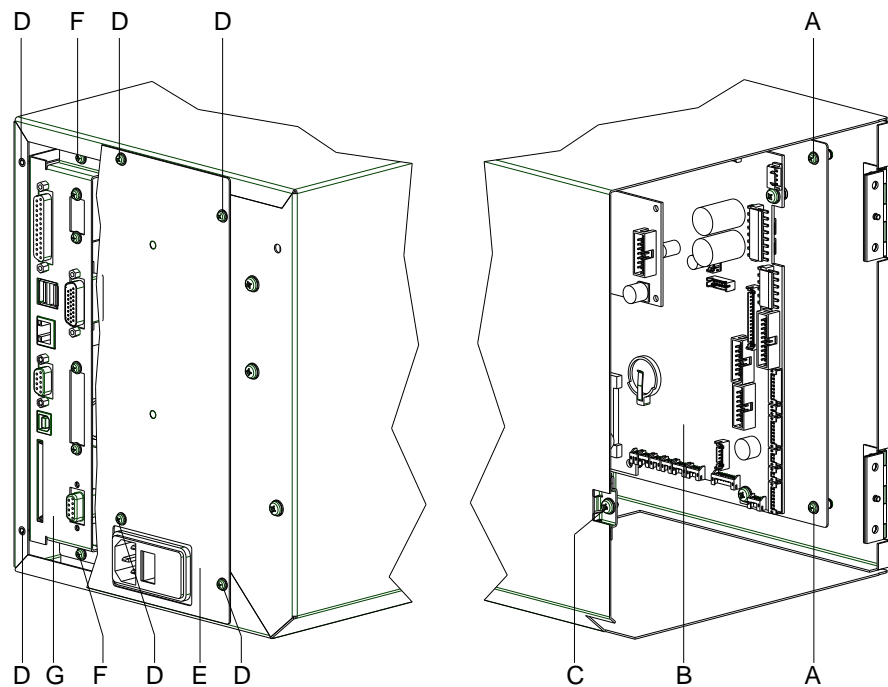

Figure 11
1. Insert the connection plate (G, Figure 11) with both PCBs into the print mechanics.
2. Fix the connection plate with the screws (F, Figure 11).
3. Attach all connection assemblies at the CPU (B, Figure 11) corresponding to the wiring plan (see chapter 9.1, page 63).
4. Mount again the cover plate (E, Figure 11) with the screws (D, Figure 11).
5. Close the module cover carefully and fix it with the screw (C, Figure 11).